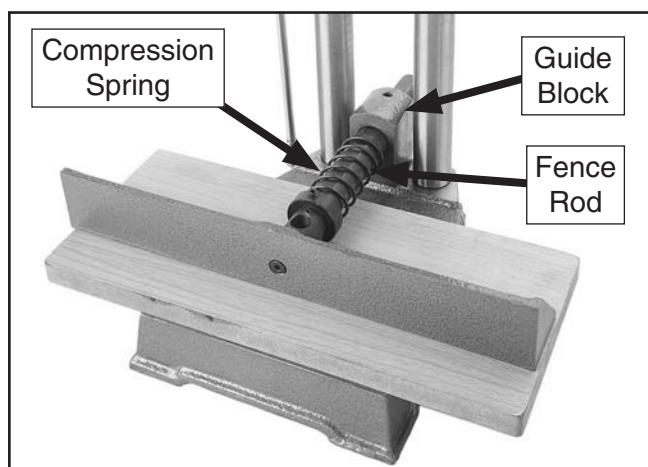

Figure 10. Fence assembly in position on table.
5. Slide compression spring onto fence rod. Then slide fence through guide block between base of columns (see **Figure 10**).